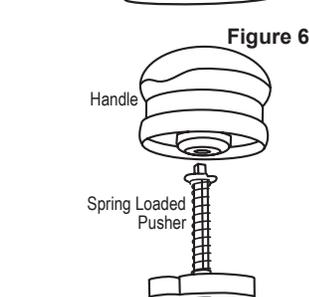

Figure 6
6. Line up the square end of the Spring Loaded Pusher with the square opening of the Handle, push it in until it is fully seated (Figure 6).